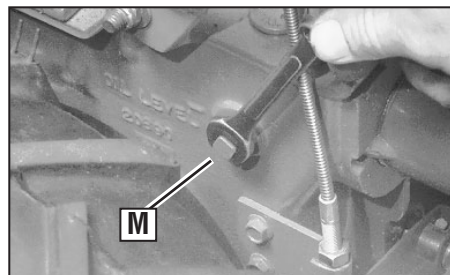

Figure 2-10: Gear oil level check plug.
2. Remove the oil level check plug (M, Figure 2-10) on the left-side of the transmission. (Due to dried paint on the plug threads, it may require some force to remove the plug the first time.) The gear oil level is correct if oil starts to flow out of the hole as the plug is removed. If so, securely reinstall the plug.
(d) Reinstall and tighten securely the gear oil fill plug (M, Figure 2-10).